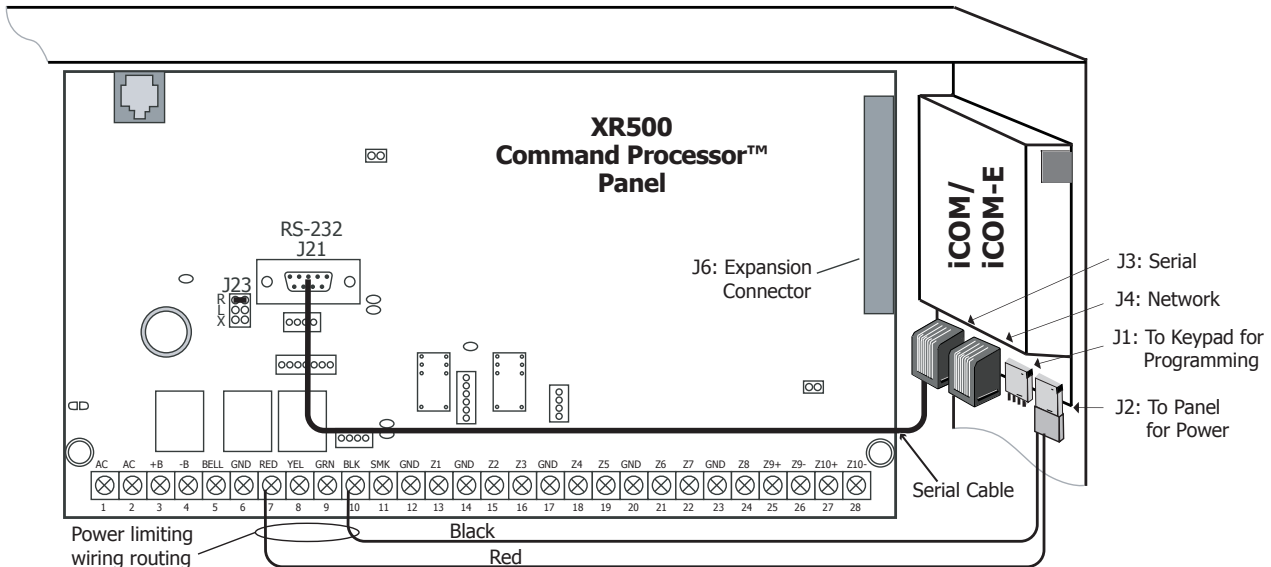

Figure 2: iCOM™/ iCOM-E™ and XR500 Installation and Power Wiring
Operating as an interface between the panel and the network, the iCOM or iCOM-E installs inside the panel enclosure and communicates through a 462N Network Interface Card or connects directly to the panel using the nine-pin serial connector on J21 as shown in Figure 2.
1. Disconnect the 2-wire Power Cable from the iCOM or iCOM-E J2 Power Connector. See Figures 2 and 3.